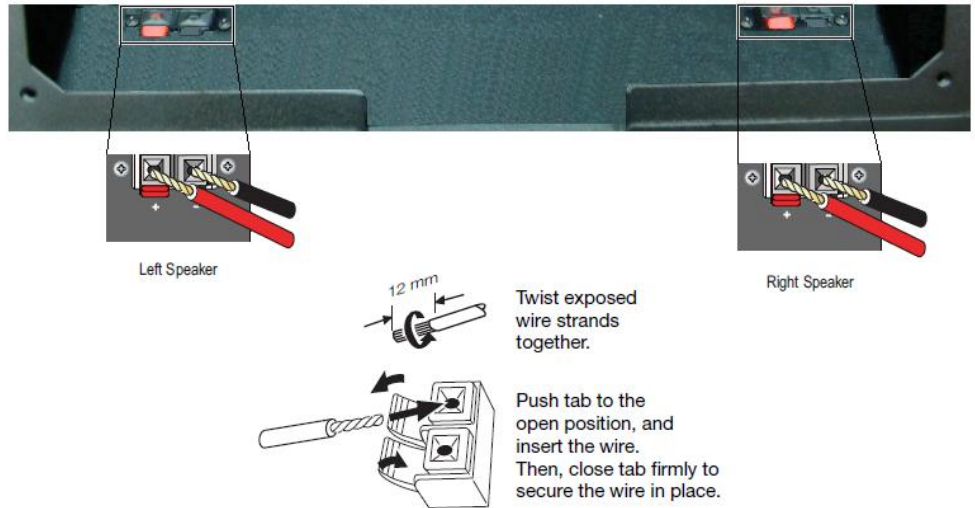

Figure 3-5. External Speaker Connection
- Connect the ⊕ (positive) and ⊖ (negative) speaker wires to the SPEAKER-R and SPEAKER-R terminals; see figure 3-5. **Maintain the correct polarity.** For more information, refer to the owner’s manual for your speakers.